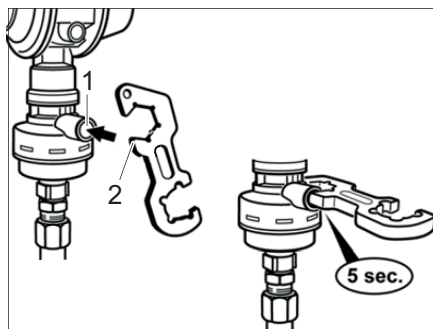

Fig. 86 Crash sensor
- If necessary, press the reset button (Fig. 86,1) at the crash sensor.
- Using the screwing aid (Fig. 86,2) or a similar suitable object, press the release button (Fig. 86,1) and hold it for 5 seconds.